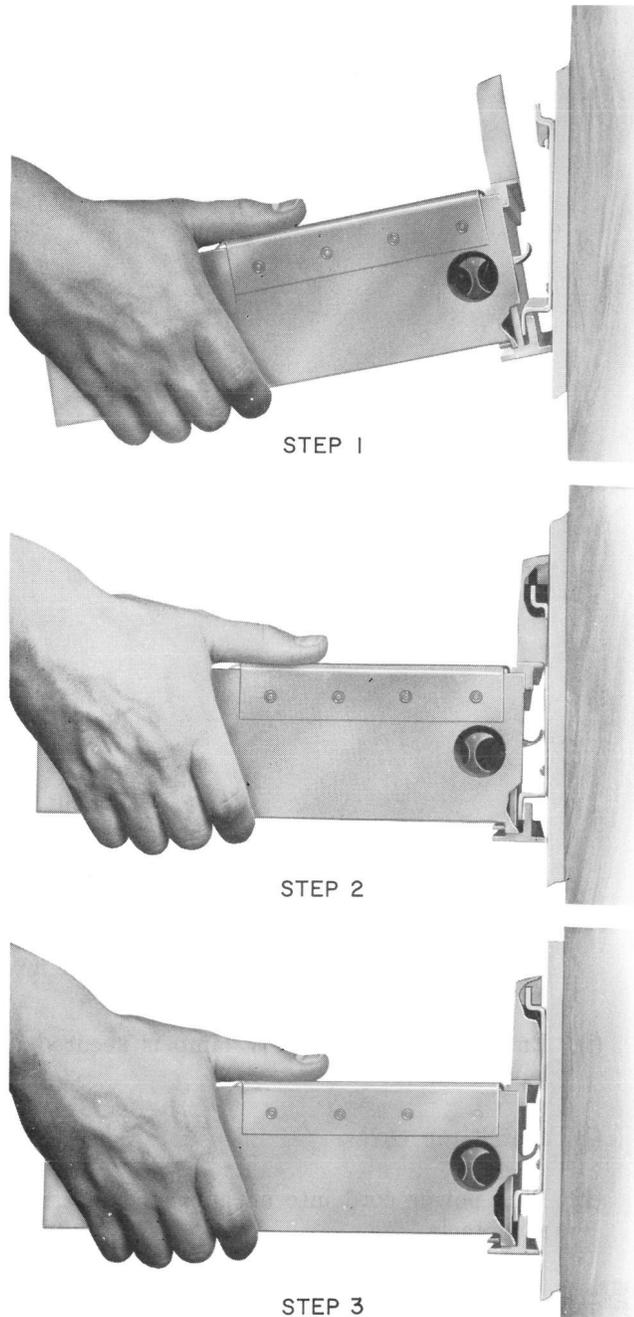

Fig. 13—Installation of KS-19322 Sign
- (d) Engage lower slot of sign with lower flange of backplate (Fig. 13, Step 1).
- (e) Raise sign assembly as far as possible and tilt top of sign toward wall (Fig. 13, Step 2).
- (f) Allow sign to slide down, engaging upper slot and flange (Fig. 13, Step 3).